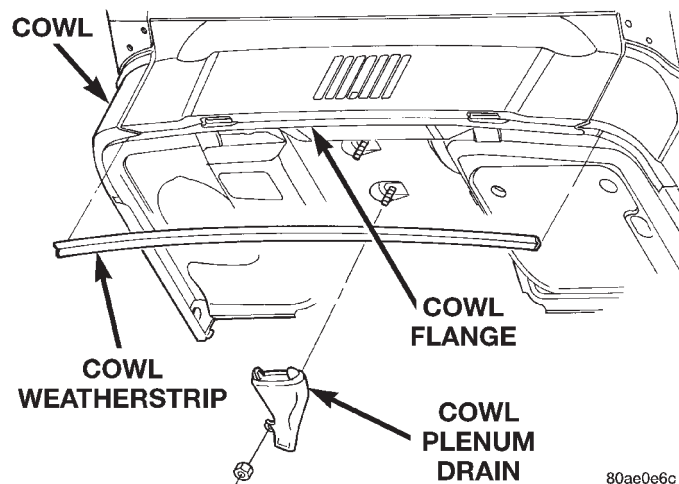

Fig. 4 Cowl Weatherstrip
- (1) Carefully separate the weatherstrip from the cowl flange (Fig. 4).